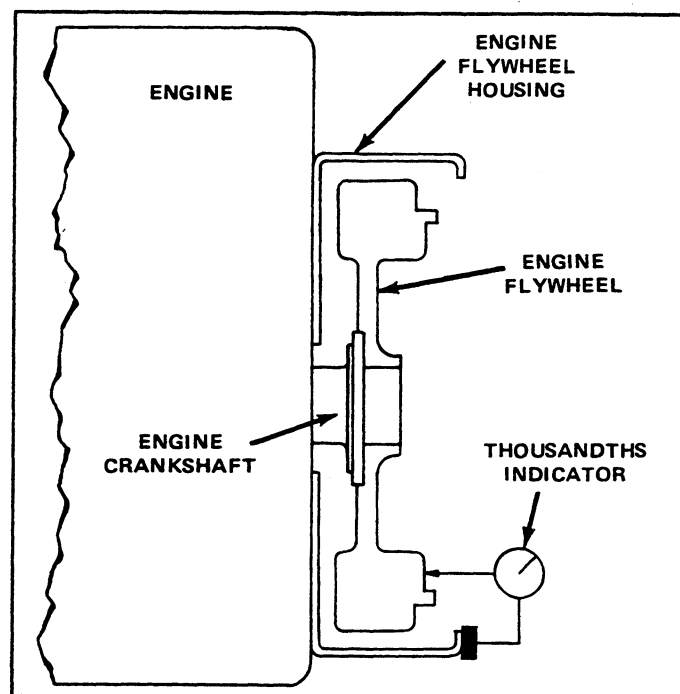

Figure 9-10. Checking the Driving Ring Surface of Engine Flywheel.
5. Bolt a thousandths dial indicator or gauge to the engine flywheel housing so that the indicator is perpendicular to the engine flywheel, and the indicator stem is riding on the inner face of the flywheel. See Figure 9-10. Rotate the flywheel. The variation of the face runout of the surface to which the driving ring is bolted should not exceed 0.0005 per inch of diameter.